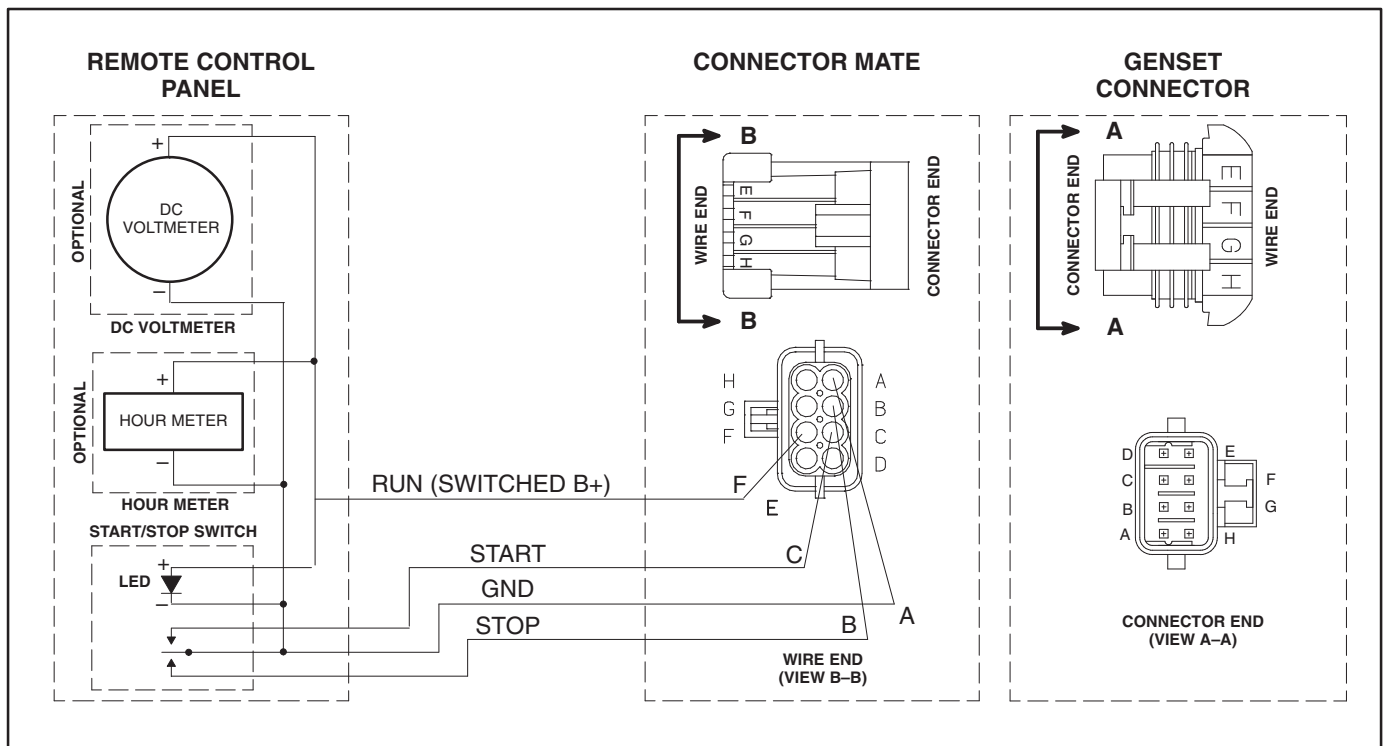

FIGURE 14. SCHEMATIC OF TYPICAL REMOTE CONTROL CONNECTIONS
1. Snap the connector together with its mate in the wiring harness from the remote panel. If the wiring harness is made up by others, insulated 18 AWG copper conductors should be used for distances up to 30 feet (9 meters) and heavier gauge conductors for distances that are greater. Use flexible sheathing to protect remote control wiring. Figure 14 is a schematic of typical remote control connections. It identifies the function of each connector pin number. The remote panel end of each lead should be marked to identify the connector pin number.